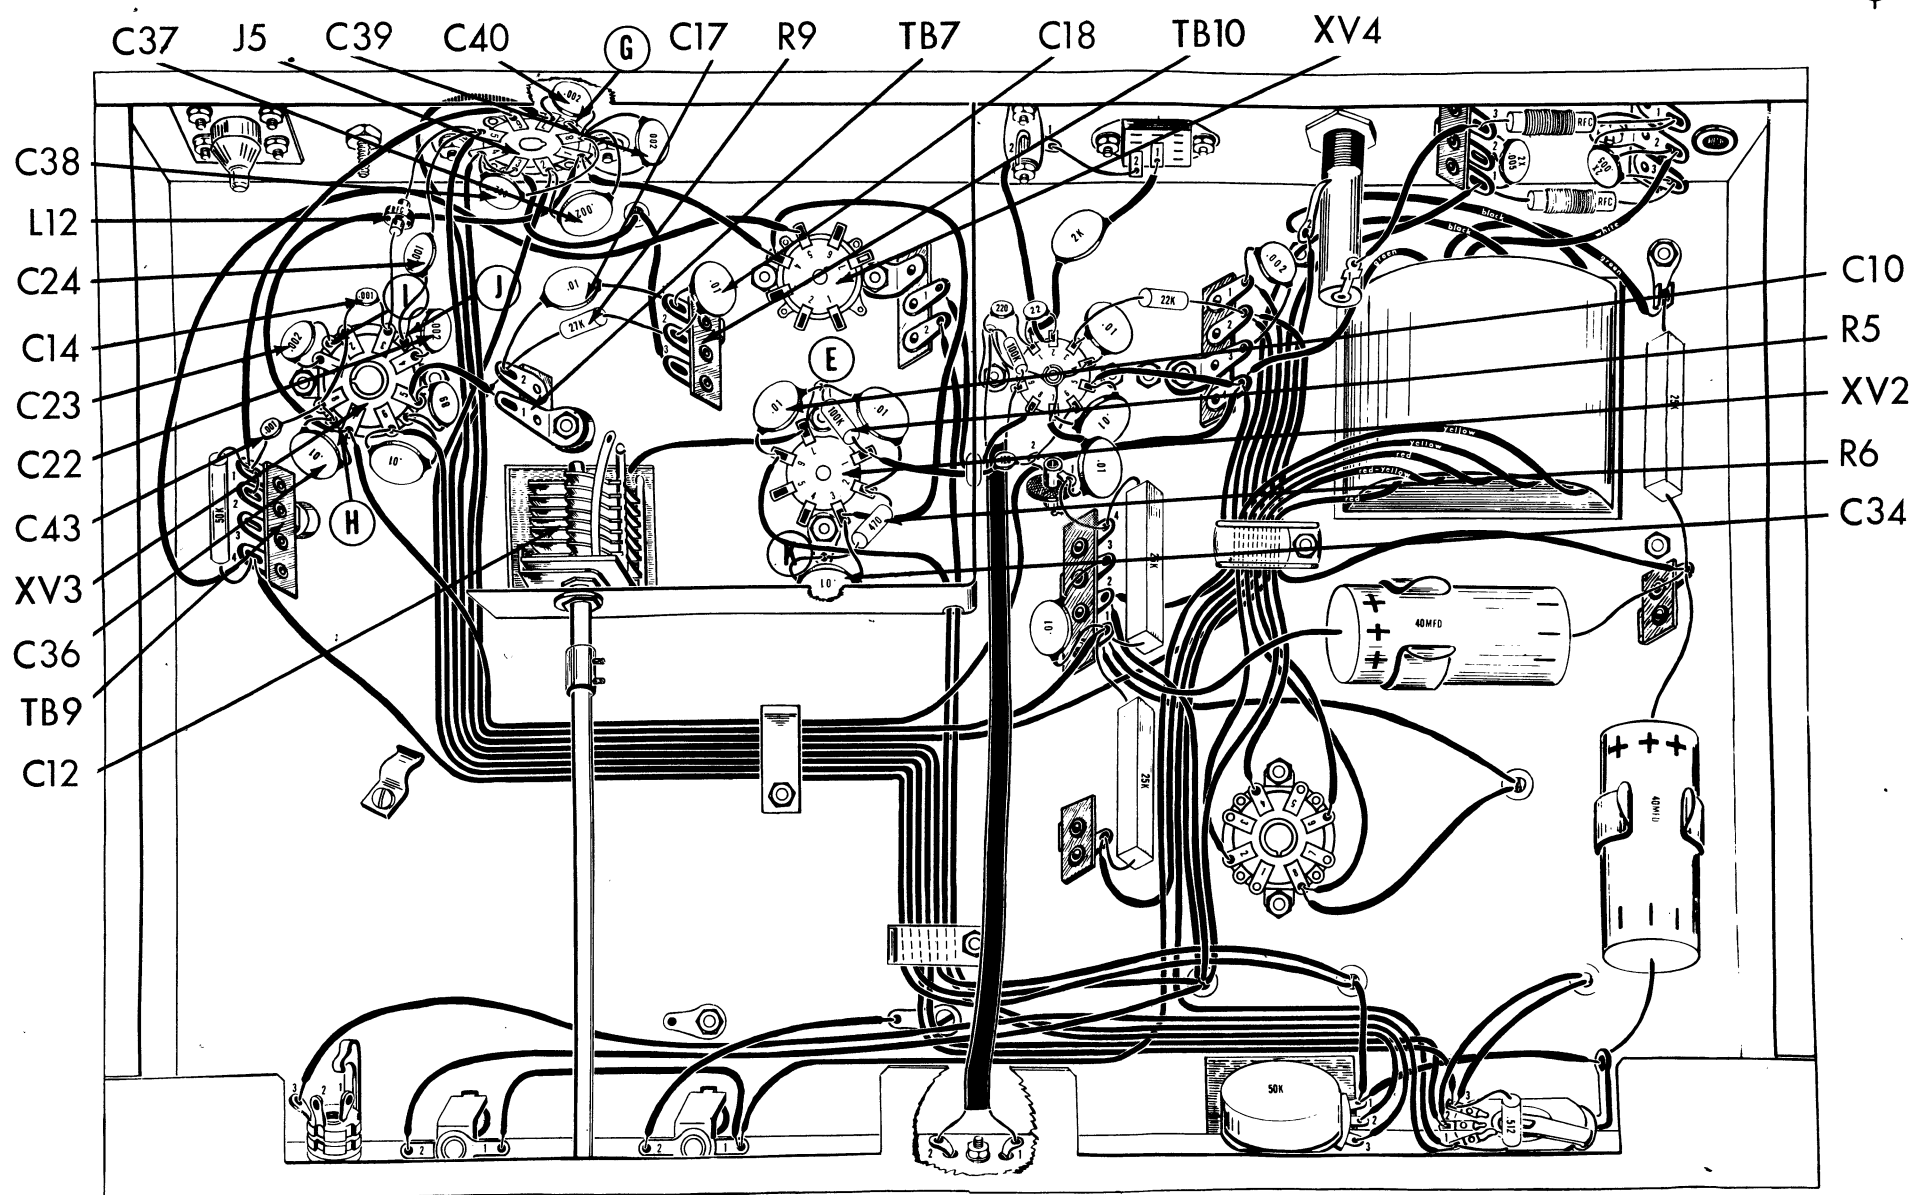

Fig. 7
1. (✓) Fig. 7. Connect a 6 1/2" piece of green wire from XV2-3 (C) to XV4-4 (C).
2. (✓) Fig. 7. Connect a 11" piece of yellow wire from TB9-4 (S3) to XV4-5 (S1).
3. (✓) Fig. 7. Connect an 6" piece of red wire from TB9-1 (C) to J5-6 (S1).
- 3a. (✓) Fig. 7. Connect a 6" piece of green wire from XV3-7 (C) to J5-1 (C).
4. (✓) Fig. 7. Connect a 4" piece of green wire from XV4-4 (S2) to J5-1 (C).
5. (✓) Fig. 7. Connect a 3/4" piece of bare wire from J5-8 (C) to ground lug "G" (S1) at J5.
6. (✓) Fig. 7. Connect a 3/4" piece of bare wire from J5-3 (S2) to J5-4 (C).
7. (✓) Fig. 7. Cut all leads on four .002mfd (2K or 2000mmf) disc capacitor, C37, C38, C39, and C40 to 1/2". Cover each of these leads with a 1/4" piece of spaghetti. Connect C39 from J5-1 (S3) to J5-8 (C). Connect C40 from J5-8 (C) to J5-7 (S2). Connect C37 from J5-2 (S2) to J5-8 (C). Connect C38 from J5-4 (S3) to J5-8 (S5).
8. (✓) Fig. 7. Connect a 3/4" piece of bare wire from XV3-8 (C) to ground lug "H" (C) at XV3.
9. (✓) Fig. 7. Cut both leads on a .01 mfd (10K or 10,000mmf) disc capacitor, C36, to 1/2". Connect C36 from XV3-7 (S3) to ground lug "H" (S2).
10. (✓) Fig. 7. Cut both leads on a .001 mfd - 1000 V (1K or 1000mmf) disc capacitor, C14, to 1/2". Connect from XV3-2 (C) to XV3-3 (C).
11. (✓) Fig. 7. Connect a 3/4" piece of bare wire from XV3-2 (C) to ground lug "I" (C) at XV3.
12. (✓) Fig. 7. Cut all leads on two .002mfd (2K or 2000mmf) disc capacitors, C22 and C23, to 1/2". Connect C22 from XV3-4 (S1) to ground lug "J" (C) and C23 from XV3-1 (S1) to ground lug "I" (S2).
13. (✓) Fig. 7. Connect a 1 1/4" piece of bare wire from XV3-8 (C) to XV3-2 (S3).
14. (✓) Fig. 7. Cut both leads on a .001 mfd - 2000 V (1K or 1000mmf) disc capacitor, C43, to 3/4". Connect from TB9-1 (S4) to XV3-8 (S3).
15. (✓) Fig. 7. Cut both leads on a .001 mfd - 1000 V (1K or 1000mmf) disc capacitor, C24, to 3/4". Connect from J5-5 (C) to ground lug "J" (S2) at XV3.
16. (✓) Fig. 7. The small RF choke, L12, is about 3/8" long and consists of a single concentrically wound coil of about 1/2" diameter. A yellow dot is stamped on the body or coil. Cut both axial leads to 3/4". Connect from J5-5 (S3) to XV3-3 (S2).
17. (✓) Fig. 7. Cover a 2 3/4" piece of the heavy bare wire with a 2 1/4" piece of spaghetti. Connect from TB7-1 (C) to XV3-5 (S2).
18. (✓) Fig. 7. Cut both leads on a 27K Ω (red, violet, orange, silver) resistor, R9, to 1/2". Connect from TB7-2 (C) to TB10-2 (C).
19. (✓) Fig. 7. Cut both leads on a .01 mfd (10K or 10,000mmf) disc capacitor, C17, to 3/4". Connect from TB7-2 (S3) to TB10-1 (C).
20. (✓) Fig. 7. Cut both leads on a 470 Ω (yellow, violet, brown, silver) 1 watt resistor, R6, to 1/2". Connect from XV2-2 (S2) to ground lug "K" (C) at XV2.
21. (✓) Fig. 7. Connect one end of a 4" piece of heavy bare wire covered with a 3 1/2" piece of spaghetti to XV2-7 (S1). Push the other end of the cable through the rectangular hole under capacitor, C12.
22. (✓) Fig. 7. Cut all leads on three .01 mfd (10K or 10,000mmf) disc capacitors, C10, C18, C34 to 1/2". Connect C10 from XV2-6 (S2) to ground lug "E" (C). Connect C18 from TB10-1 (C) to TB10-2 (C). Connect C34 from XV2-3 (S2) to ground lug "K" (C).
23. (✓) Fig. 7. Cut both leads on a 100K Ω (brown, black, yellow, silver) 1 watt resistor, R5, to 1/2". Connect from XV2-1 (S2) to ground lug "E" (C).